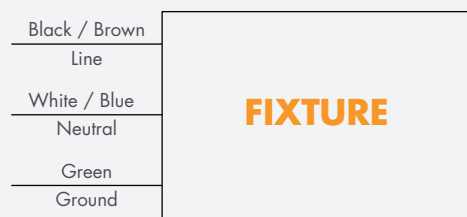

Figure 1.
- Pass wires into post top tenon or pipe. Make wire connections as seen in Figure 1.